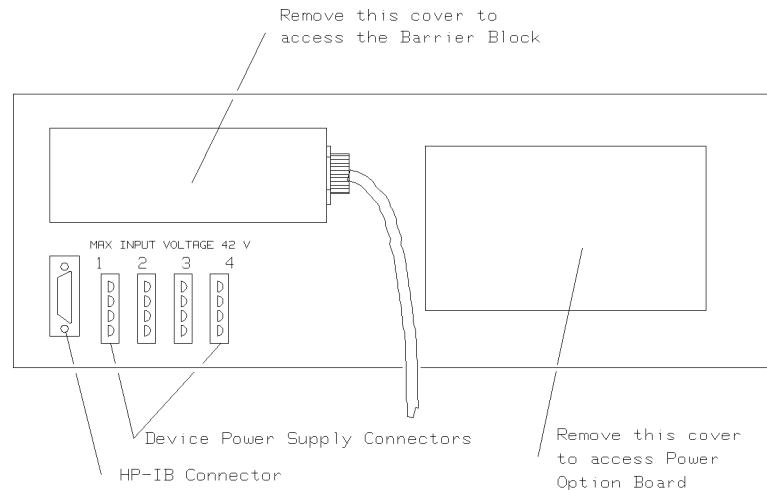

Figure 7-14. Miniframe - Rear
1. Refer to Figure 7-14, remove the access cover to the fuse block.